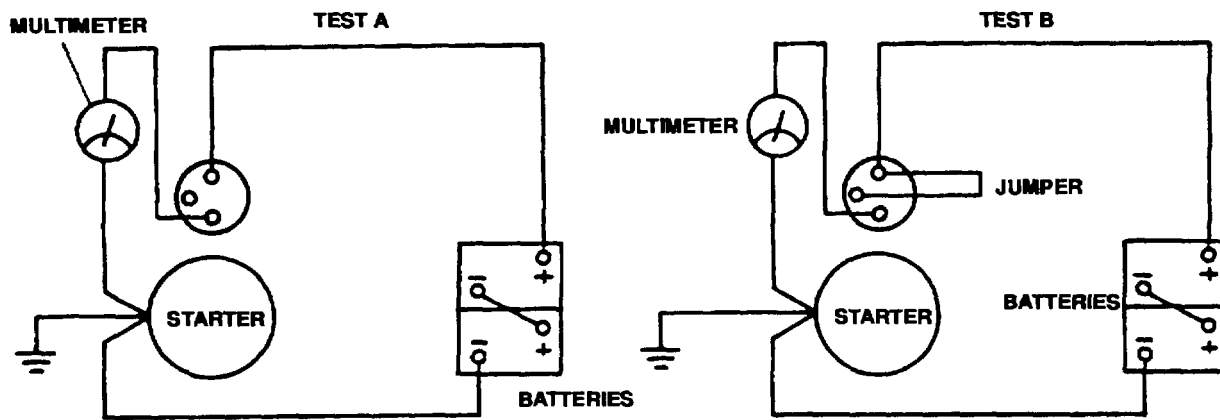

FIGURE 3-23. Starter Solenoid Test Circuit
- b. Set multimeter for volts DC and connect as shown in FIGURE 3-23, Test A. If voltage is indicated solenoid is defective.
- c. Momentarily connect a jumper as shown in FIGURE 3-23, Test B. Multimeter should indicate battery voltage and starter should crank the engine. If multimeter does not read battery voltage, the solenoid is defective. If multimeter indicates battery voltage, but starter does not operate, starter is defective.